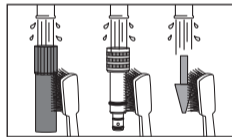

Fig. 28
- Clean the entire outer surface of the handpiece with a soft-bristled toothbrush for at least 15 seconds. (Fig. 28). For spray nozzles, clean the knurled part and the O-ring thoroughly. And for Tip Nozzles, clean the triangular part thoroughly.